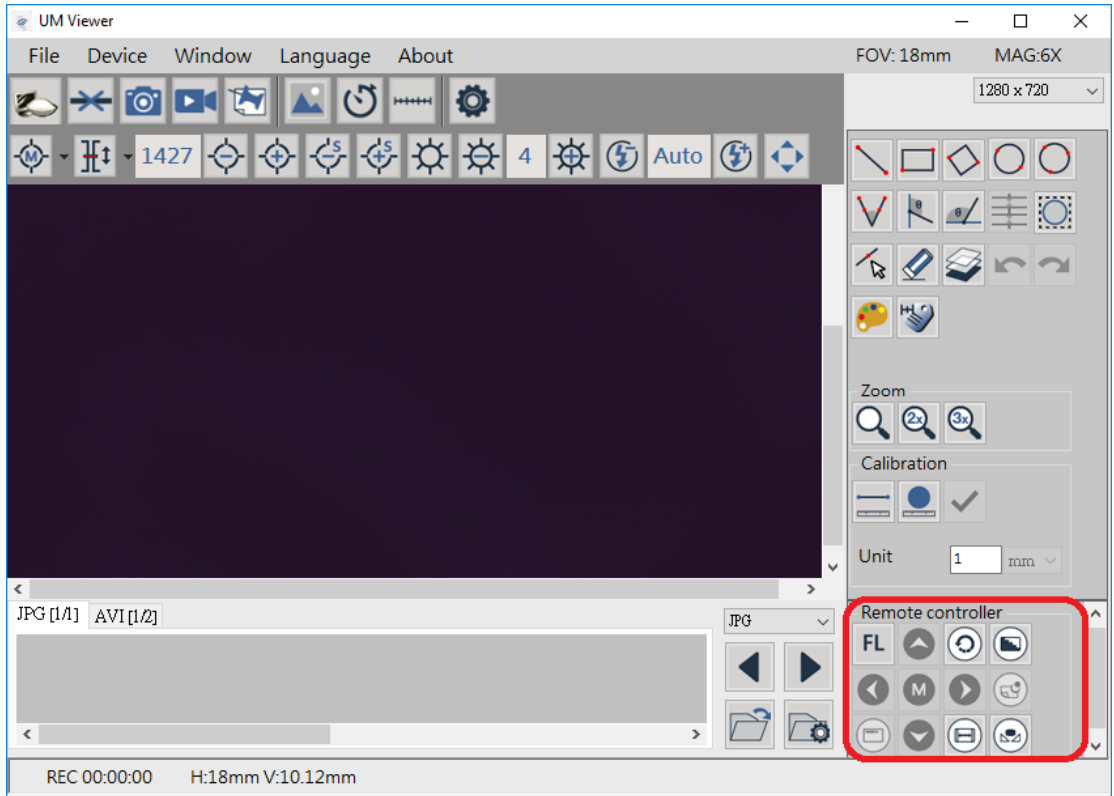

Fig 3-9 Remote Control
- (14) EV Increase  : Increase the brightness.
- (15) Remote Control  : Click this button to enter Remote Control menu. See Fig 3-9, if the icon is greyed out, means this function does not support this model.